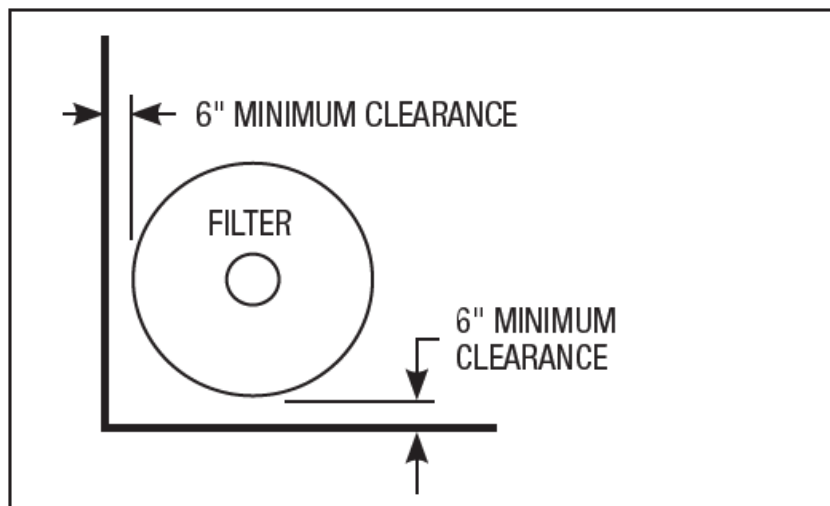

Figure 2. Filter Location
3. Install electrical controls at least five (5) feet from the filter. This will allow enough room to stand away from the filter during start-up.
4. Allow sufficient clearance around the filter to permit a visual inspection of the clamp ring. See Fig. 2.